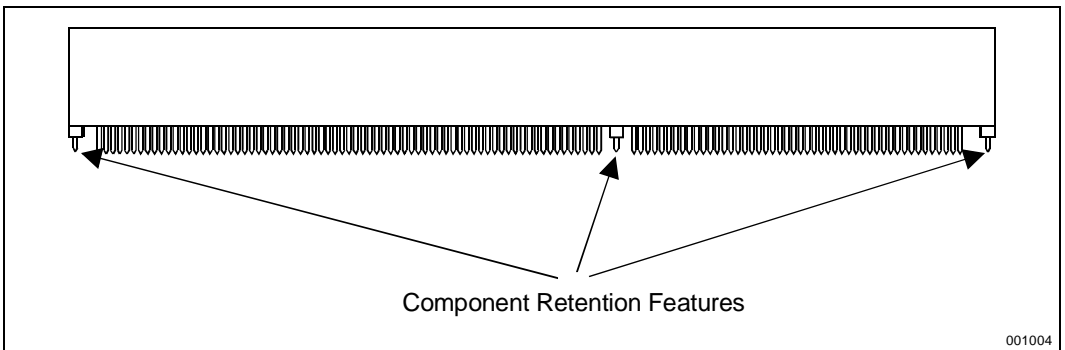

Figure 22. SC242 Connector, Retention Features Highlighted
2. Place the SC242 connectors on the board so that all the leads are within their corresponding plated through hole (using the retention features as a guide, see Figure 22) and allow it to rest on the retention feature before the application of any insertion force.